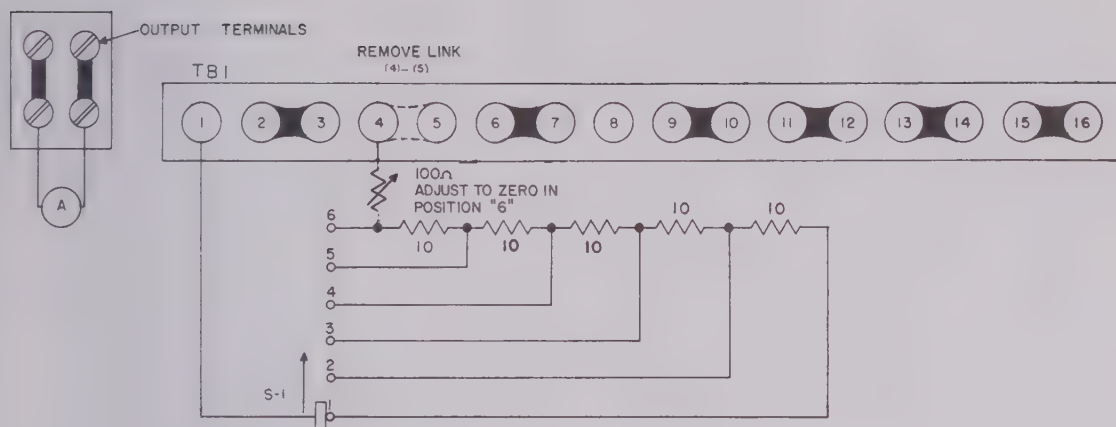

FIG. 3-7 CONNECTIONS FOR RESISTANCE PROGRAMMING (CURRENT MODE)
- 2) For remote current control: See Fig. 3-7
- a) Since we need 50 ohms total resistance for R_{cc} , five 10 ohm resistors are connected to a 6 position switch (with shorting contacts) as shown in Fig. 3-7.